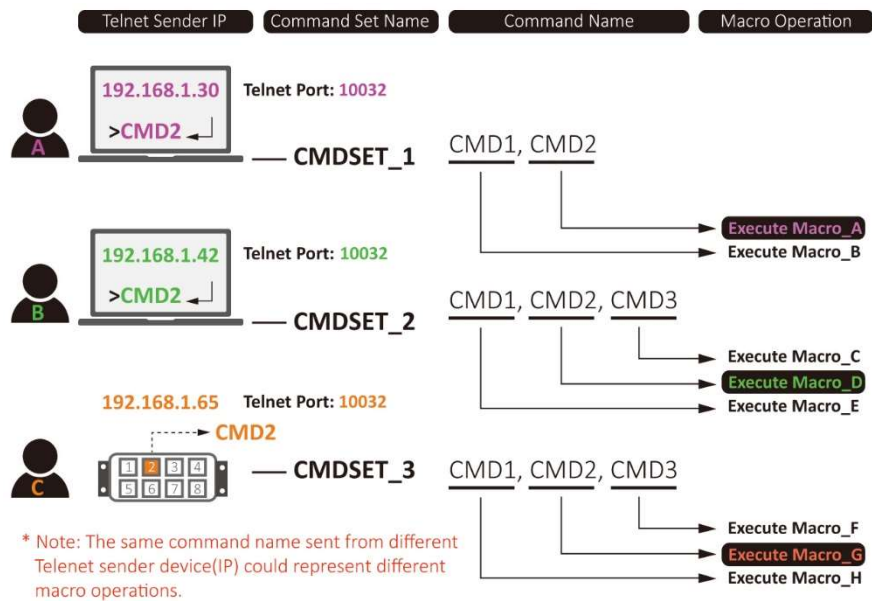

Figure 5-27 Main Menu>Dashboard>Telnet Command Set Configuration
The <Telnet Users> page allows users from different IP addresses to configure their own command sets. Each command set can include user-defined commands to execute Macro operations over IP. Follow steps (1) to (10) to create a command set named **COMDSET\_1**, which includes the two commands **CMD1** and **CMD2**. As shown in Figure 5-27, when a PC running a telnet application, such as **Terminals**, sends the command **CMD2** from its IP address **192.168.1.30** and port no. **10032**, the **AVoIP Manager** will execute the macro-operation **Macro\_A** according to the records on the <Telnet Users> page.